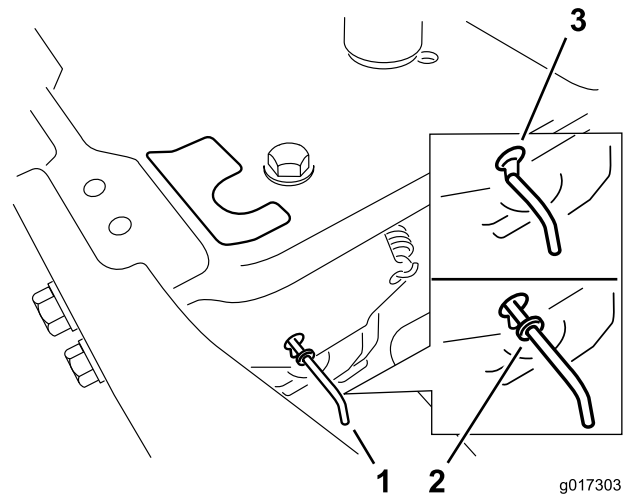

Figure 23
4. Move the bypass levers forward through the key hole and down to lock them in place as shown in Figure 23 . Ensure this is done for each lever.
Move the bypass levers rearward through the key hole and down to lock them in place as shown in Figure 23. Ensure this is done for each lever.